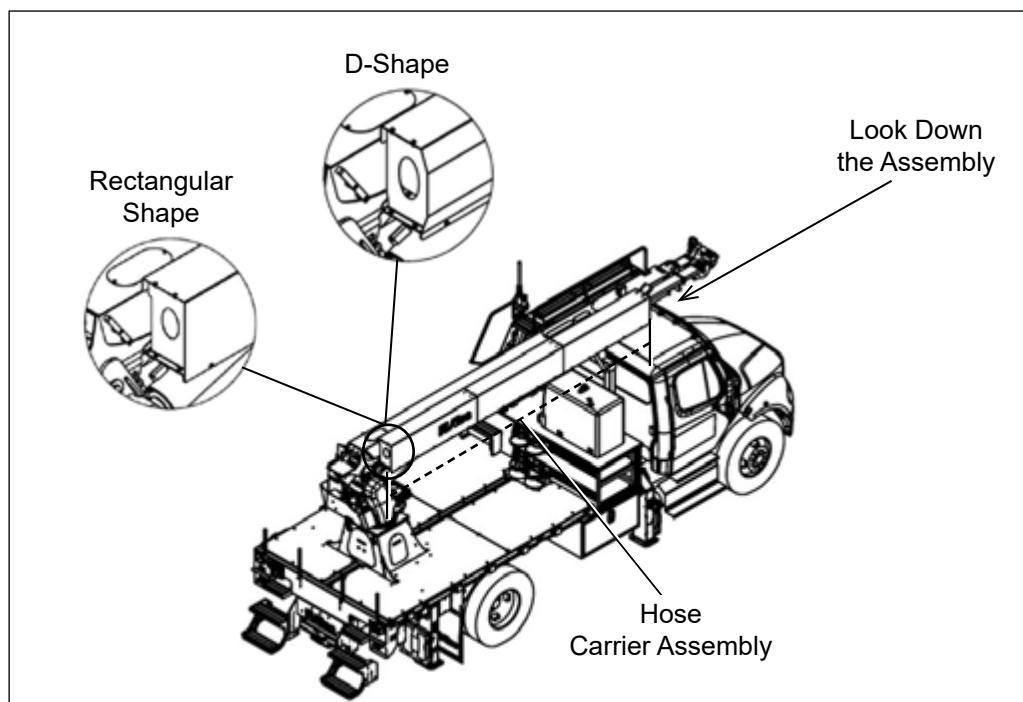
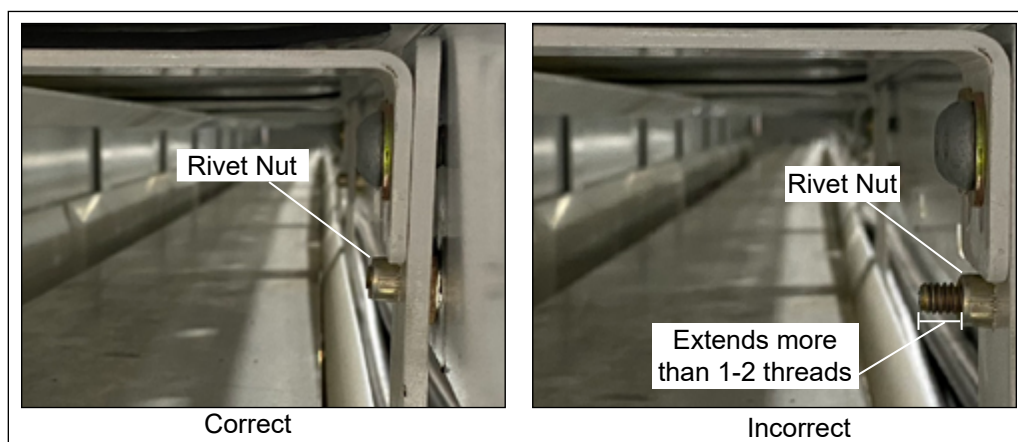

Figure 1 — Inspecting the Hose Carrier Assembly
Figure 4 — Inspecting the Cap Screws
2. Position the unit on a level surface, apply the parking brake, and engage the power take-off (PTO). Chock the wheels, and properly set the outriggers. From the lower controls, position the boom so that the hose carrier assembly can be inspected from the ground, looking down the boom tip to the turntable (refer to Figure 1). Disengage the PTO, and turn off the engine. Remove the key from the ignition, and secure it following your employer's vehicle lockout/tagout procedure.
3. Determine if the hose carrier cover shape is rectangular or D-shape (refer to Figure 1). Record the results in line 1 of the Inspection Results table on page 4.
5. From the boom tip looking towards the turntable, locate the cap screws securing the hose carrier covers (refer to Figures 1 and 4). Determine if any cap screws extend more than 1-2 threads past the rivet nut (refer to Figure 4). Record the results in line 3 of the Inspection Results Table on page 4.